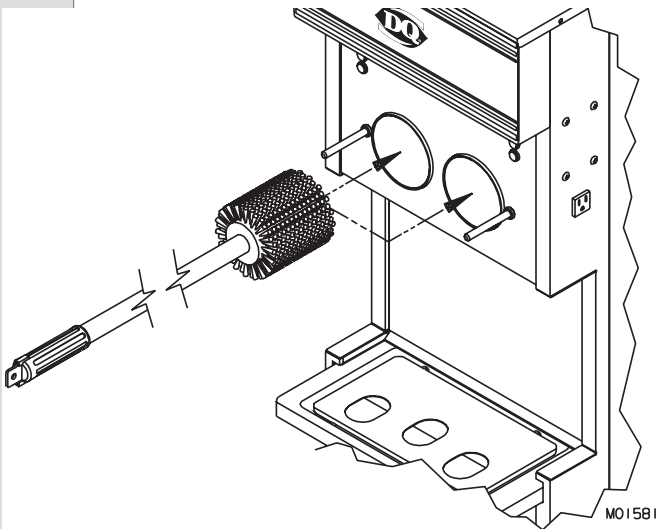

Figure 8-8 Clean Cylinders
- b. the inside of the cylinders including the back wall as shown in figure 8-8